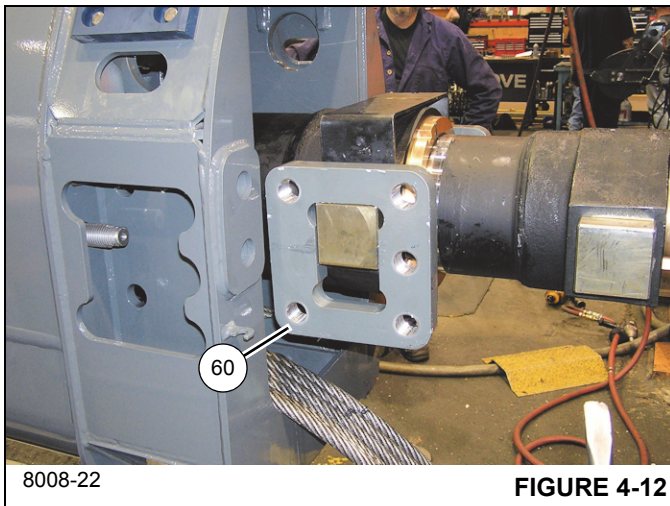

FIGURE 4-12
43. Remove the trunnion plate (60) from the front square lug of the telescope cylinder (6) (left and right sides) (see Figure 4-12).